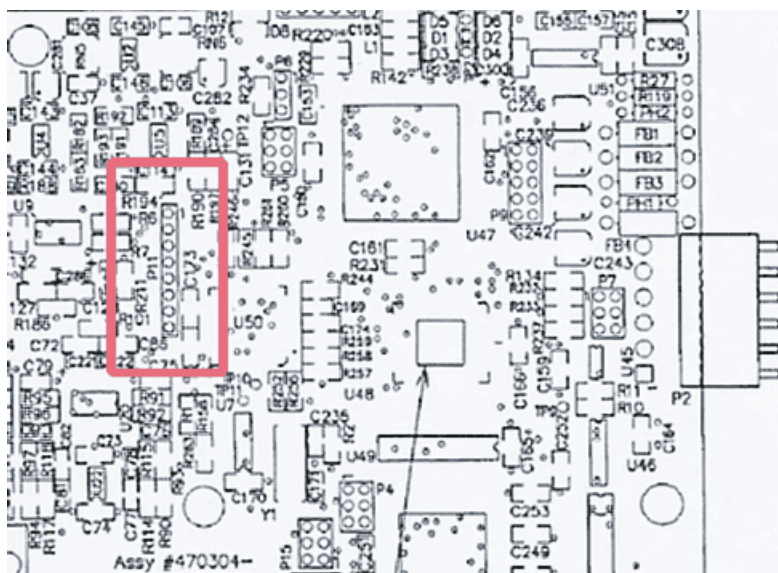

Figure 1. Locate and remove solder from the eight pads at P11 (inside the rectangle). The component side of the rear panel PCB is shown.
5. Locate P11 on the back side of the rear panel printed circuit board (PCB) and remove the solder from the eight pads (Figure 1). P11 is easier to find if you remove the PCB, but if you already are familiar with its location you can save time by leaving the PCB attached to the chassis.